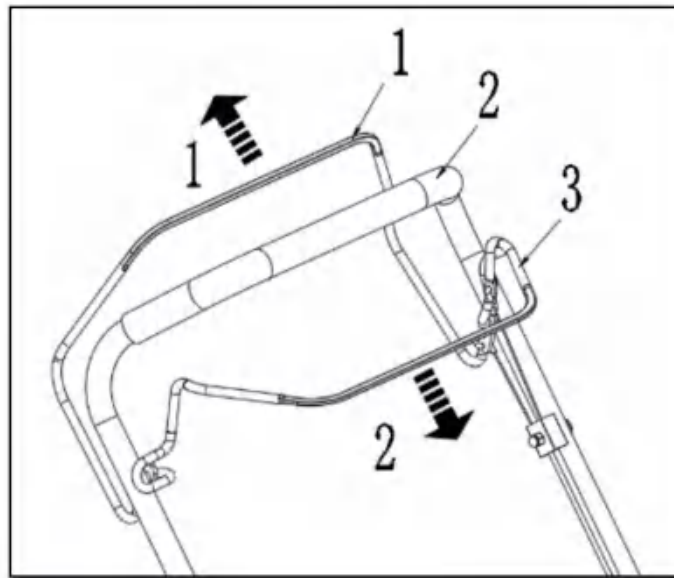

Fig. 21
1. Release the self-propelling lever (1) to stop the self-propelled function (Fig. 21, step 1).
2. Release the brake lever (3) to stop the engine and blade (Fig. 21, step 2).